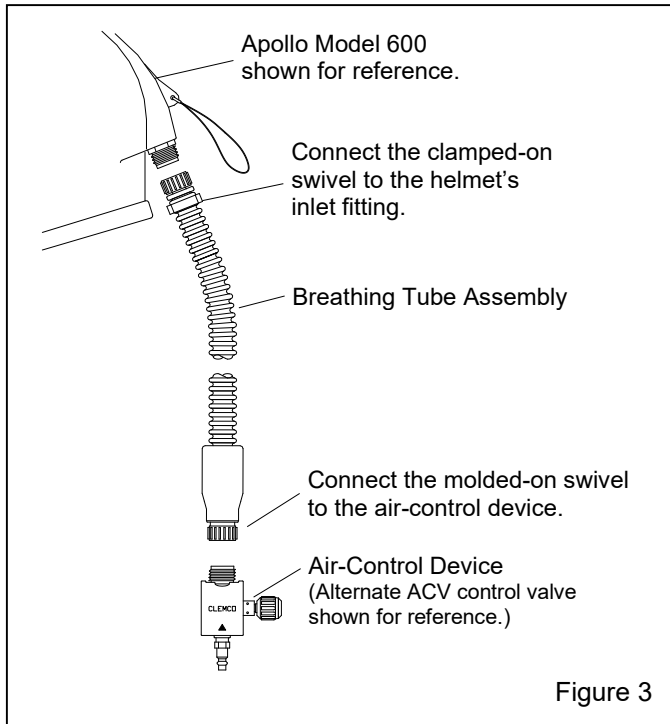

Figure 3
3.3.1 The breathing tube has a clamped-on end and a molded-on end. Attach the clamped-on end to the threaded air-inlet fitting at the back of the helmet, as shown in Figure 3. Do not over-tighten; hand-tight is sufficient.